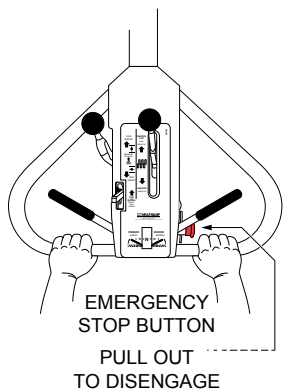

Figure 18. Emergency Stop Button
1. **ALWAYS** make sure that the emergency stop button (Figure 18) is pulled all the way out (disengage).